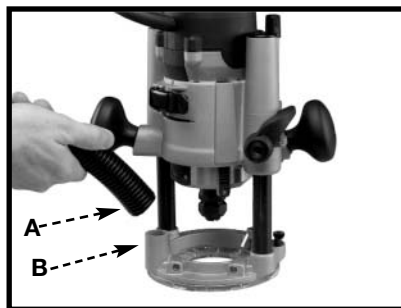

Fig. 8A
A standard 1" vacuum hose (A) Fig. 8A can be attached to the dust port (B) Fig. 8A to connect the tool to a vacuum cleaner or dust collection system.